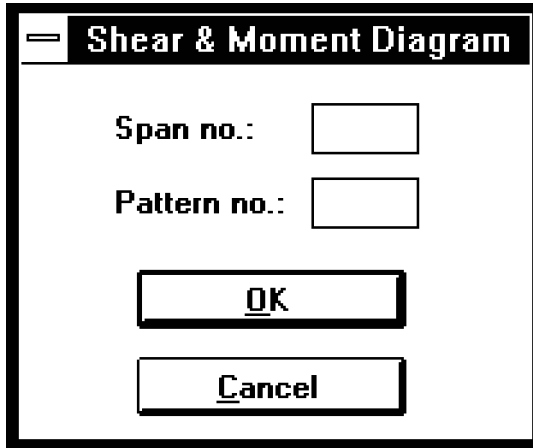

Figure 4-28—The Shear & Moment Diagram dialog box
- From the **View** menu, select **Shear & Moment Diagrams**. The dialog box of Figure 4-28 appears.